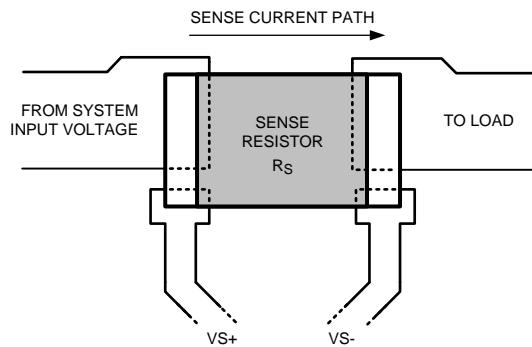

Figure 18. Sense Resistor Connections
Connections from R_S to the LM25056 should be made using Kelvin techniques. In the suggested layout of Figure 18, the small pads at the lower corners of the sense resistor connect only to the sense resistor terminals and not to the traces carrying the high current. With this technique, only the voltage across the sense resistor is applied to VS+ and VS-, eliminating the voltage drop across the high current solder connections.
- The sense resistor (R_S) should be placed close to the LM25056. In particular, the traces to the VS+, VS-, and VIN pins should be made as low resistance as practical to ensure maximum current and power measurement accuracy. Connect R_S using the Kelvin techniques shown in Figure 18.